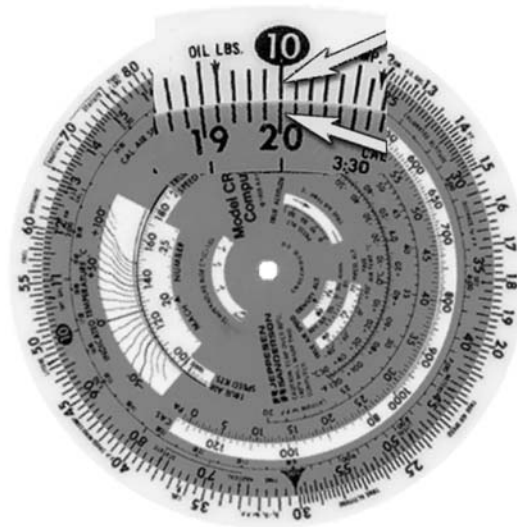

Figure 4.3-14 Ratio 1
3. The units are placed on the whiz wheel with numerator values on the outside and denominator values on the inner wheel. (Figure 4.3-14)